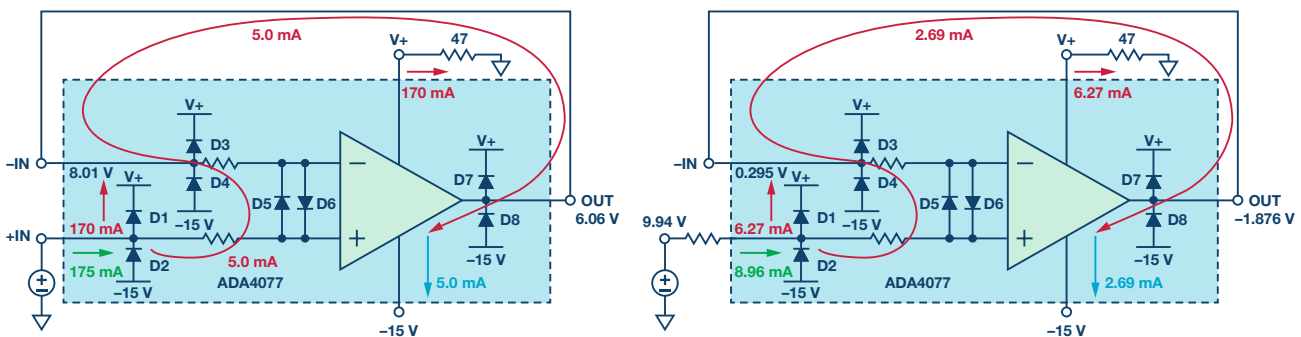

Figure 7. ADA4077 current path when V+ is absent (10 V Input and 47 Ω power load).
- ▶ Situation 2: When the input is 10 V and the load of V+ is 47 Ω, 170 mA current flows into the ADA4077-2 and flows out of V+ pin to a 47 Ω power load. 170 mA current will burn the internal diode and damage the chip. By adding a 1 kΩ resistor at +IN, the input current is decreased to 8.9 mA. Figure 7 shows the current flow path.